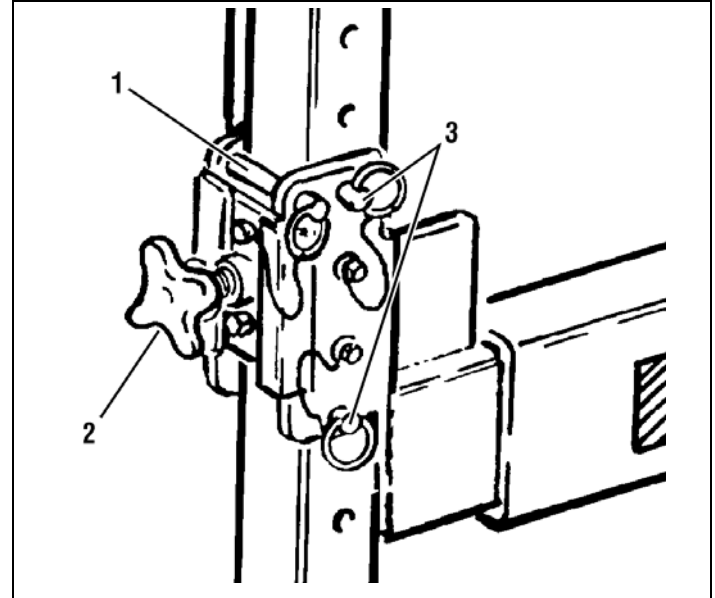

Figure 5-5. Side Lifting Rail - Quick Release Pins.
2. Loosen adjust screws on adjust bracket end caps (*See Figure 5-5.*).
4. Remove **ONLY** the two (2) **SIDE RAIL QUICK-RELEASE PINS** installed through each side lifting rail adjust bracket, and the straddle end support vertical rails at all four (4) corners of the straddle extension. (*See Figure 5-5.*)
AND STRADDLE END SUPPORTS ARE BEING DISASSEMBLED FROM SIDE RAILS. (SEE FIGURE 5-5.)